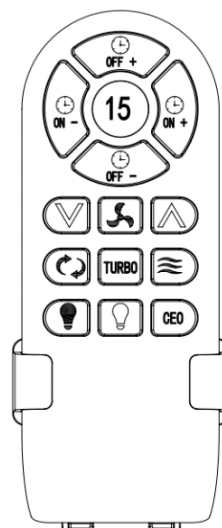

Fig. 14b
- Slide the remote into the holder to rest the remote. (Fig. 14b)